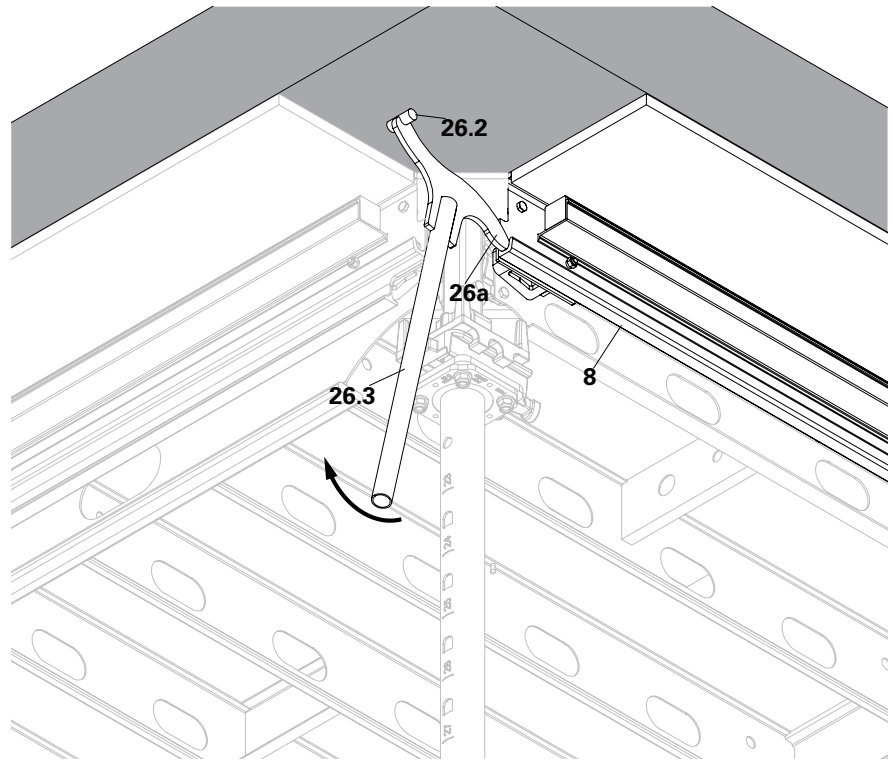
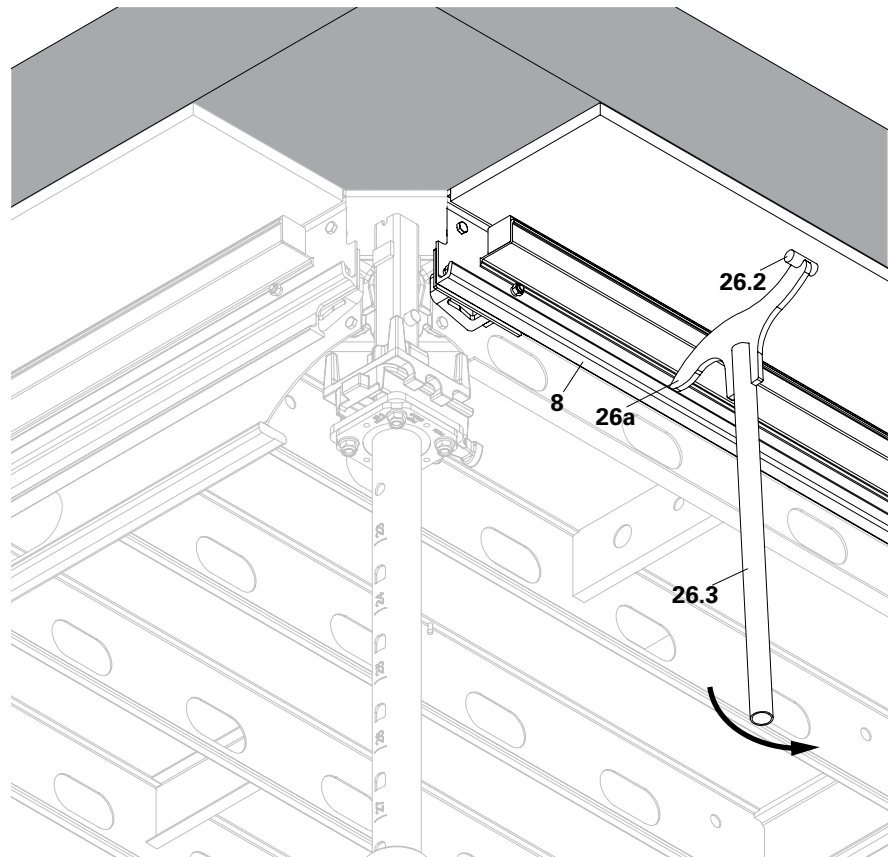

Fig. A11.11
Fig. A11.12
1. While using the stripping tool AD (26) for lowering the filler beam ADF (8), ensure that the front face (26a) of the head is placed on the lip of the filler beam and the pivot rod (26.2) is pressed against the slab surface. (Fig. A11.11 + Fig. A11.12)
2. Apply upward force using the handle (26.3) of stripping tool AD (26) such that pivot rod (26.2) is pressed against the slab surface. (Fig. A11.12) This helps in detaching the filler beam ADF (8) from the slab surface.